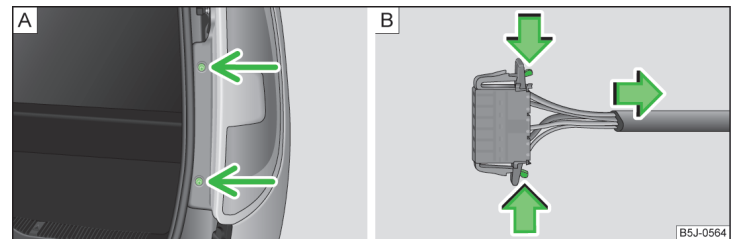

Fig. 169 Removing the tail light assembly/disconnecting the plug connection
- Unscrew the light assembly » Fig. 169 - **A**.
- Unplug the connector » Fig. 169 - **B**.